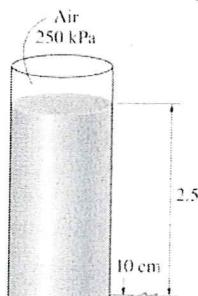

Figure 4
4. A pressurized tank of water has a 10-cm diameter orifice at the bottom, where water discharges to the atmosphere (see figure 4). The water level is 2.5 m above the outlet. The tank air pressure above the water level is 250 kPa (absolute) while the atmospheric pressure is 100 kPa. Neglecting frictional effects, determine the initial discharge rate of water from the tank.